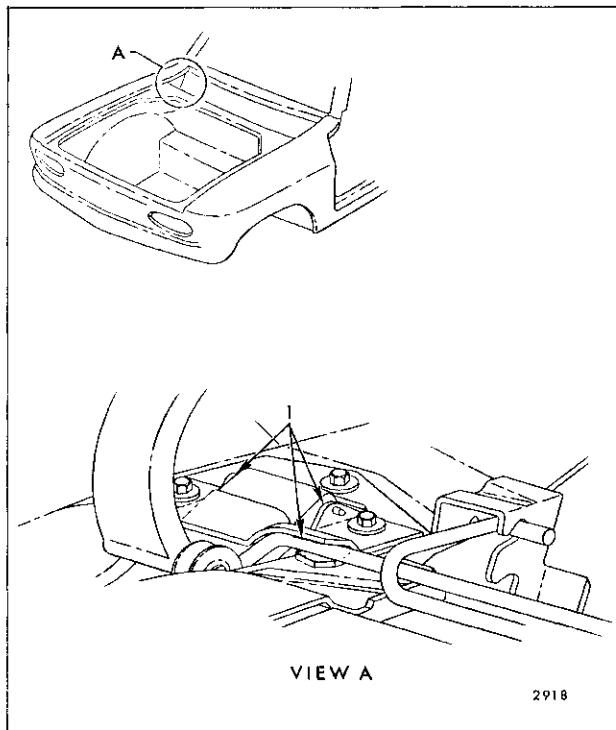

Fig. 2-2—Front Compartment Hinge and Torque Rod —
2. Apply white lithium soap grease (Lubriplate 630 AAW or equivalent) to the frictional areas indicated 1 in Figure 2-2.